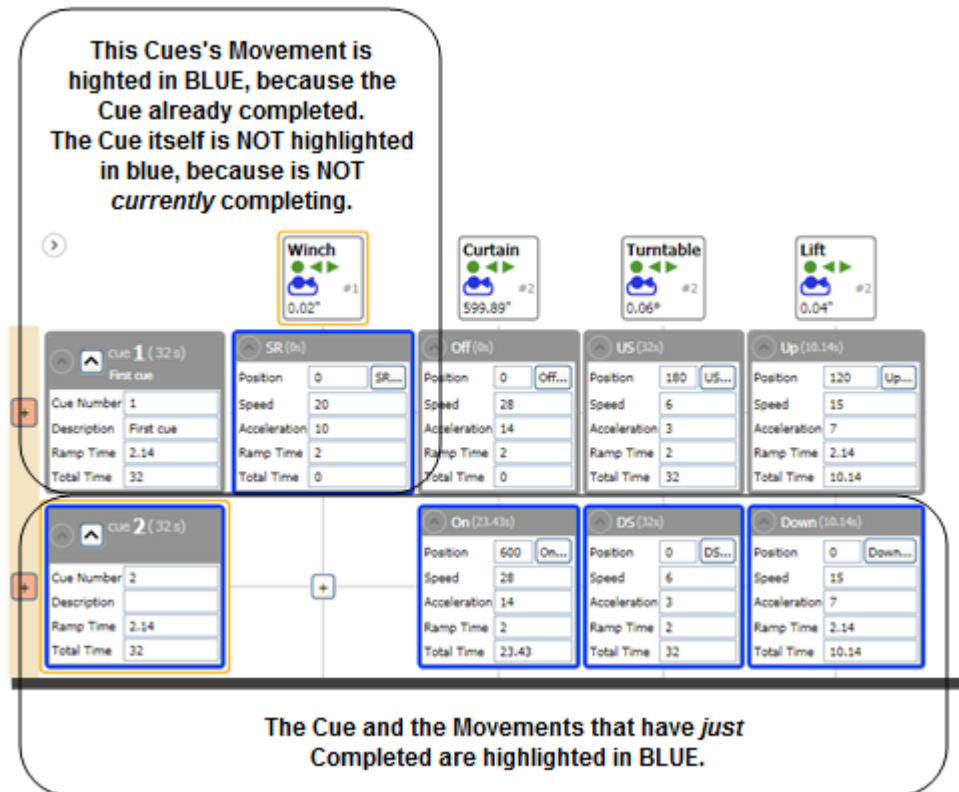

Figure 255
1. As the motor movements and the cue complete, the interface shifts colors again and the borders in the **Cue Grid** turn blue (Figure 255).